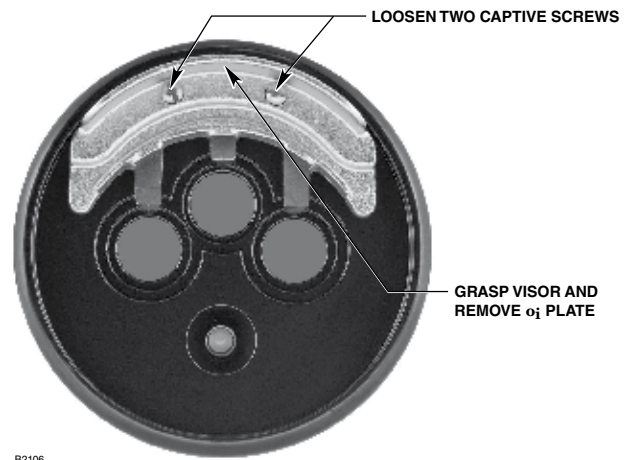

Figure 5 – *oj* plate removal
2. Loosen the two captive screws, then grasp the *oj* plate by the visor and remove it from the detector. See Figure 5.